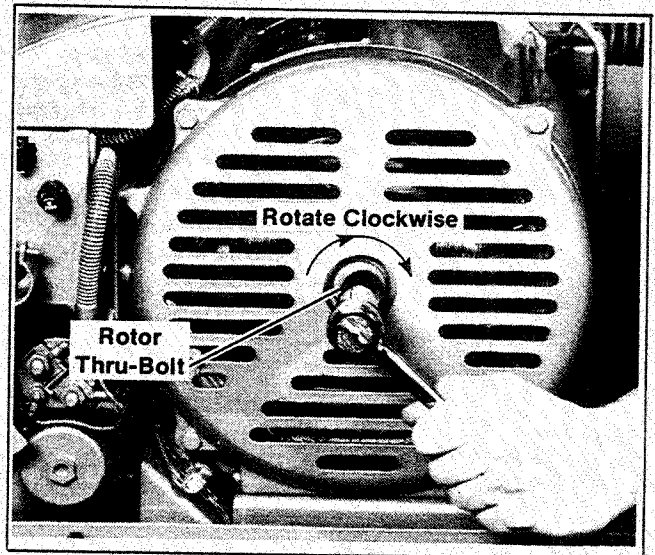

Figure 3-4. Rotating Rotor for Breaker Point Adjustment
3. Using a 3/4 in. socket wrench, rotate the rotor thru bolt clockwise until the points reach the maximum opening. See Figure 3-4.